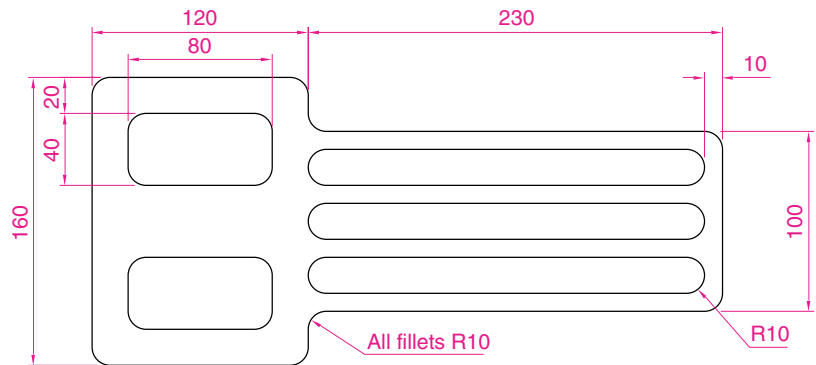

Fig. 5.46 Exercise 1
1. Construct the drawing in Fig. 5.46. All parts are plines of width=0.7 with corners filleted R10. The long strips have been constructed using **Circle**, **Polyline**, **Trim** and **Polyline Edit**. Construct one strip and then copy it using **Copy**.